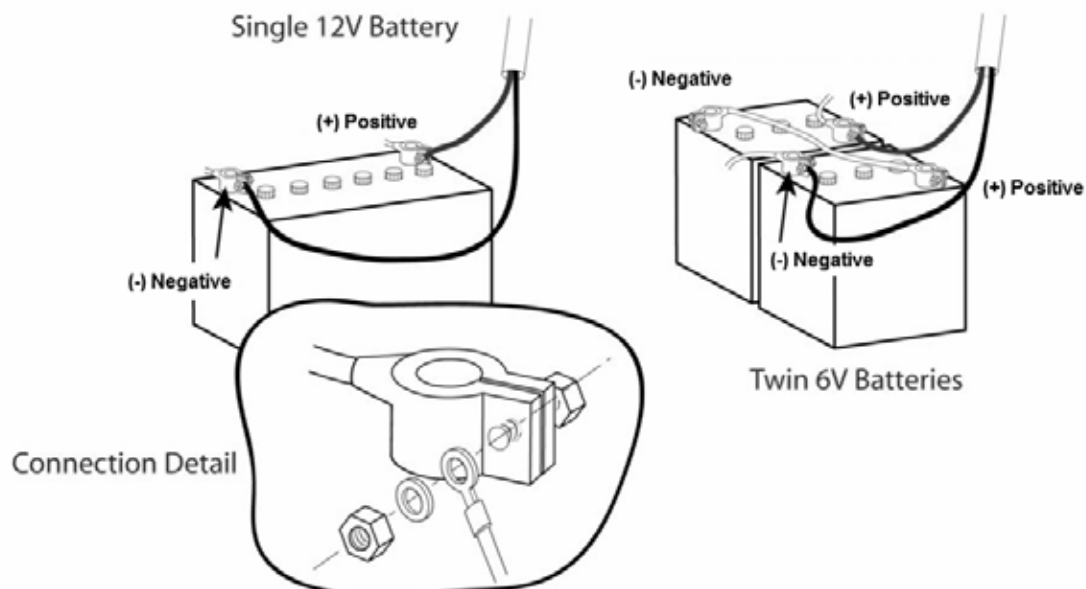

Figure 14: Battery Configuration
2. Connect the Power/Comms Harness directly to 12 VDC battery terminals. Refer to Figure 14.